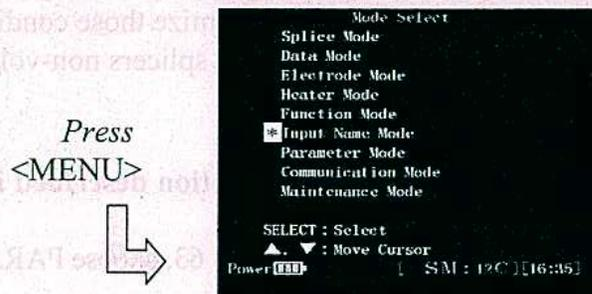

Figure 60. Entering Fiber Name Mode
1. Referring to Figure 60, choose INPUT NAME MODE and press <SELECT>.